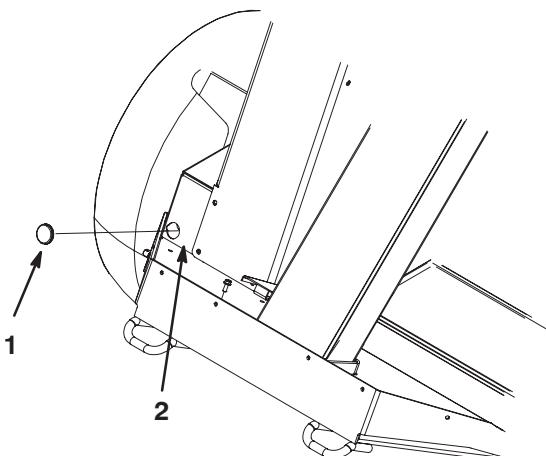

Figure 1
1. Remove the plug from the hole in the front of the control housing (Fig. 1).